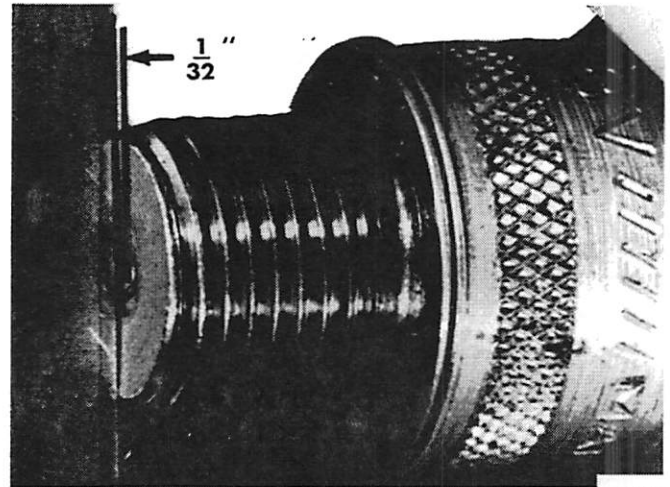

Figure 7. Checking Spark Plug Center Electrode
1. If spark plug center electrode is not burned back  $\frac{1}{32}$ " below insulator, it will function properly. (Figure 7) Do not replace for other than this reason.